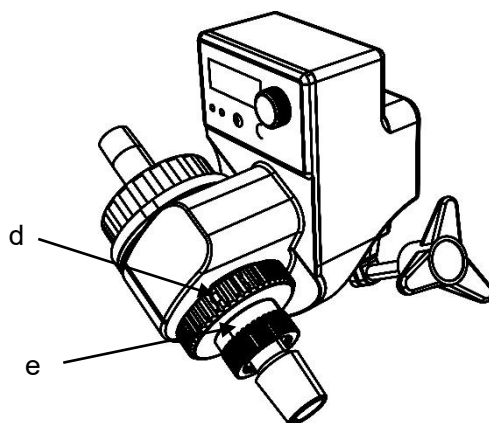

Fig. 13
- Rotate the locking device (d) (Fig. 13) by 60° counterclockwise to mount the evaporating tube in place, and rotate the locking device (d) clockwise for locking